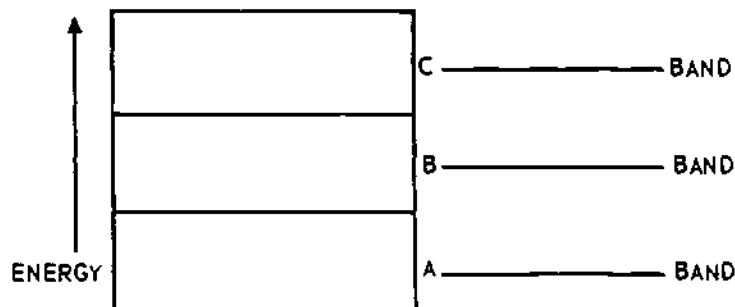

Figure 29-1. Energy Level Diagram
9. Figure 29-1 represents the energy level diagram of a semiconductor material. Identify the forbidden band, conduction band, and valence band.